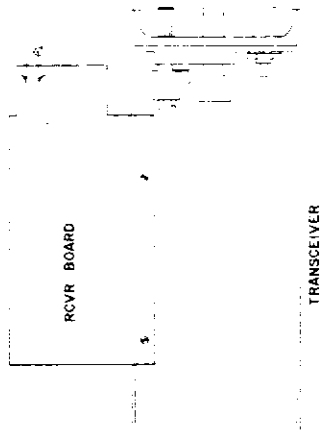

Figure 2-2. Receiver Board
5. Remove the five (5) receiver-board mounting screws, and secure receiver board in the open position (see Fig. 2-2 below).